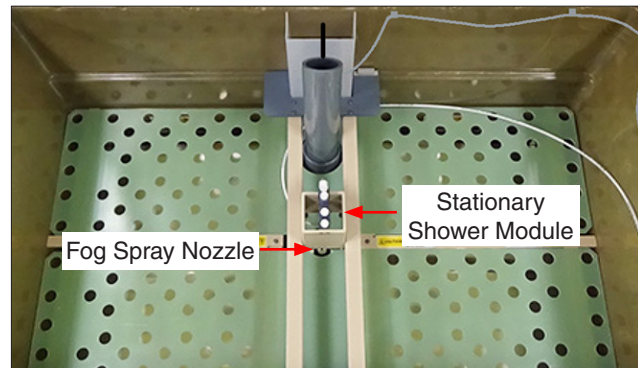

Figure 8.6b: SSM installed above Fog Spray Nozzle in “S” models.
- For “S” model testers, the Stationary Shower Module (SSM) is installed above the Fog Spray Nozzle (Figure 8.6b).